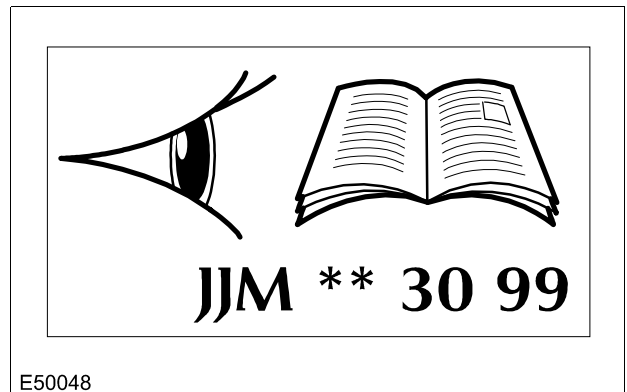

Fig. 11
**Note:** The new throttle body has a molykote coating and can not be cleaned. The new throttle bodies can be identified by a sticker. See Fig. 11.